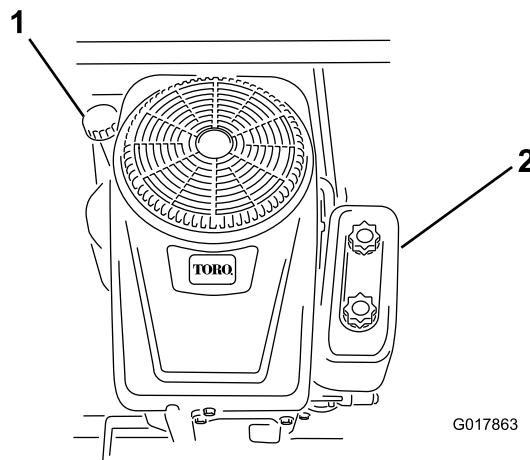

Figure 30
4. Clean around the oil dipstick (Figure 30) so that dirt cannot fall into the fill hole and damage the engine.
6. Slowly pour about 80% of the specified amount of oil into the fill hole (Figure 30). Check the oil level; refer to the Checking the Oil Level procedure.